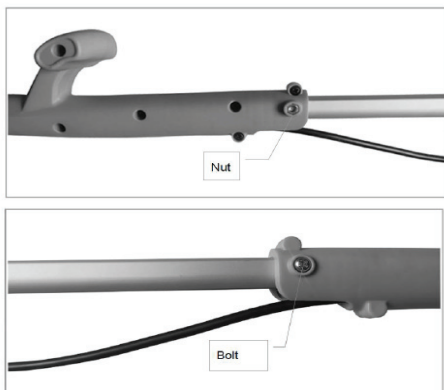

Fig 2
- Insert the bolt into the upper handle and connection tube and secure with nut. (Fig 2)